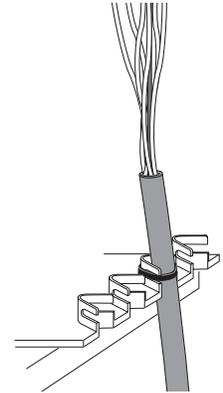

Figure 4
6. Attach cable end to the FOSC closure work stand using a tie wrap as shown. (Figure 4)
- Attach the cable to the FOSC closure work stand with a tie wrap. (See Figure 4)